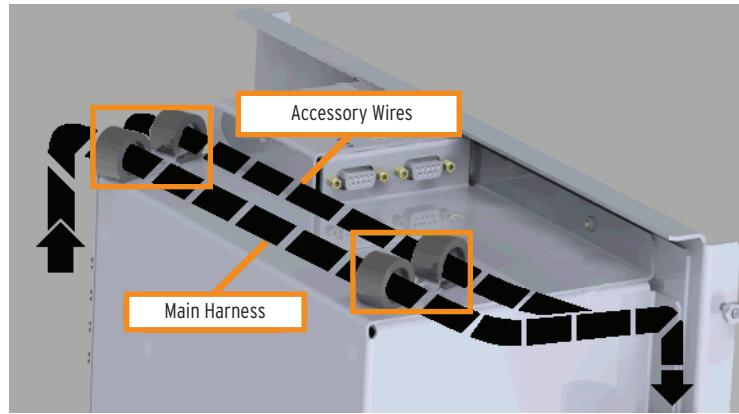

Figure 3 Secure Wires on Top of Control Module
Step 4. Use the existing nuts to secure the wires to the top of the control module with the two accessory wire clamps (if they are not already installed). See *Figure 3*.